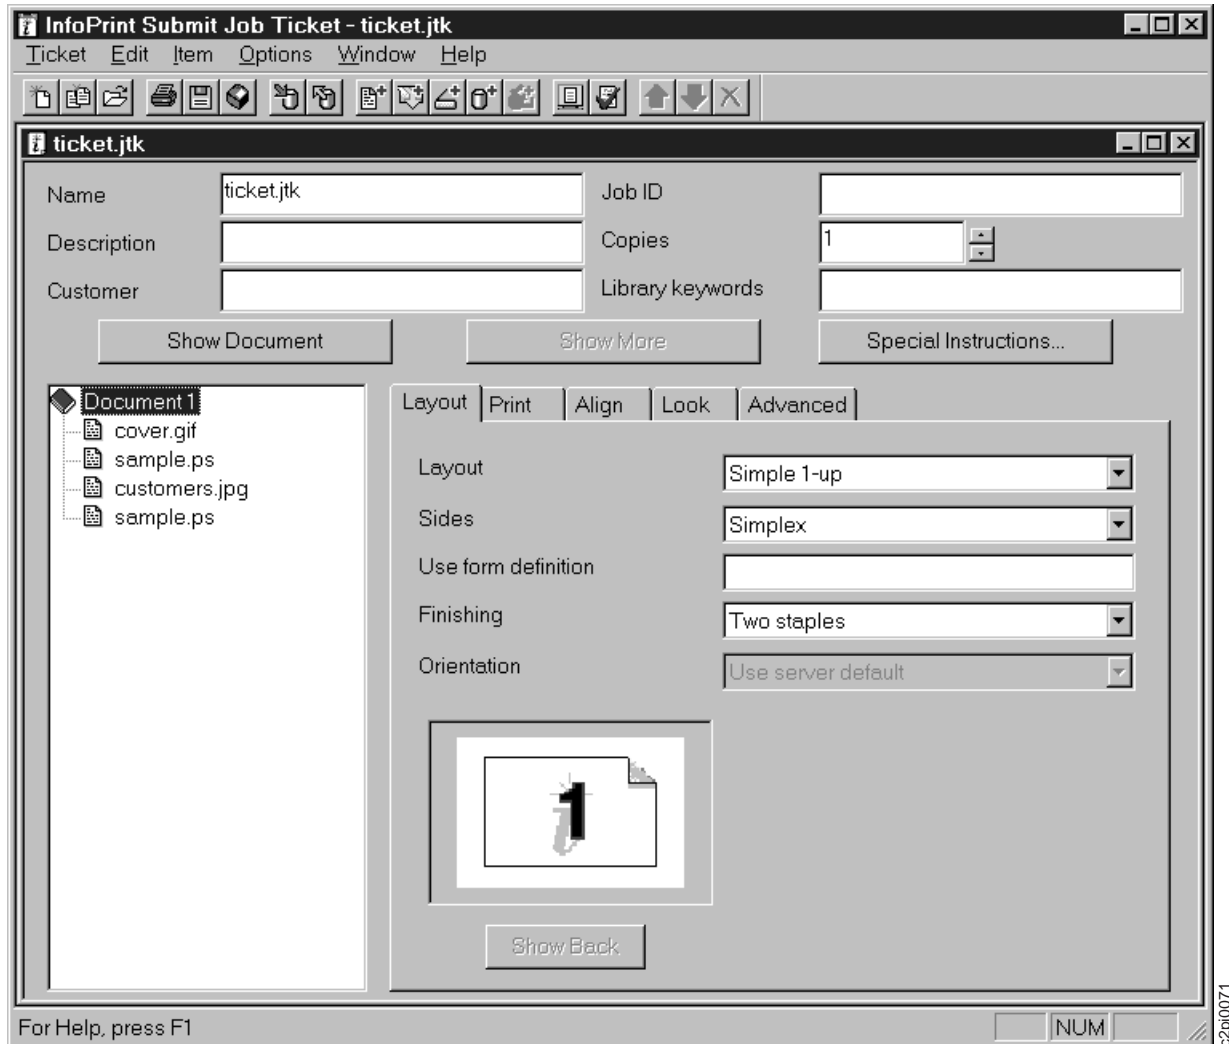

Figure 36. Edge-Stitched with Z-Folded Sheets - Layout Tab
1. From the InfoPrint Submit Job Ticket window (Figure 36).